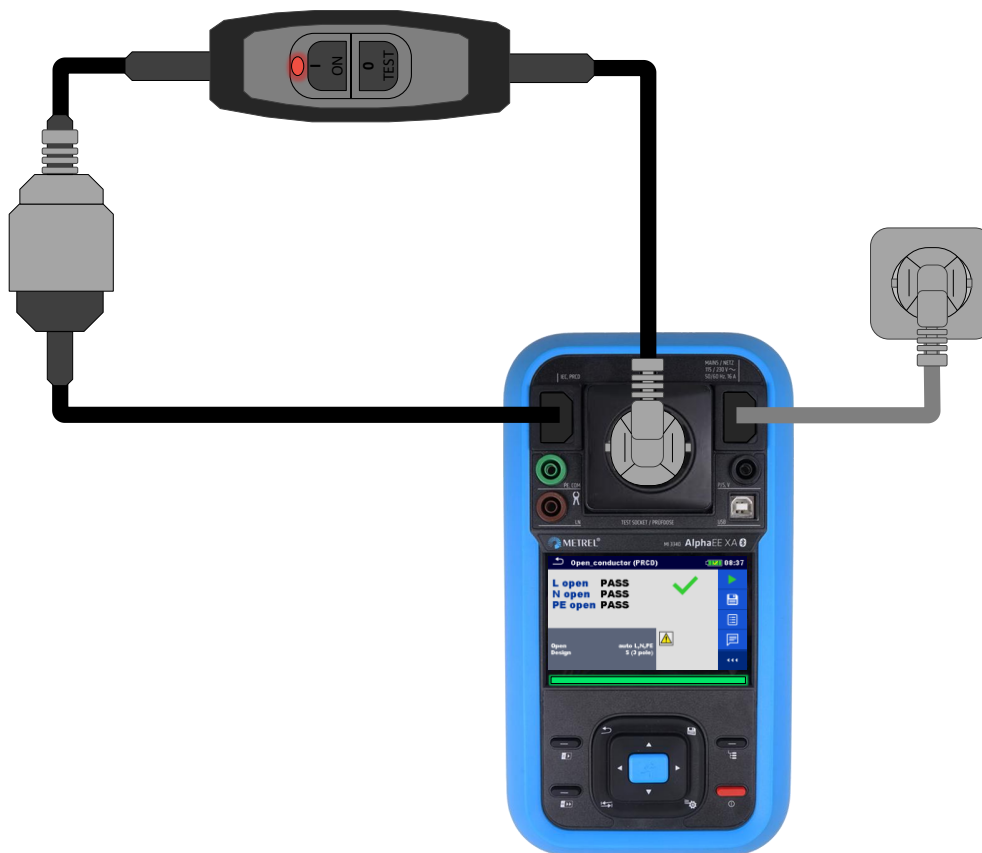

Figure 152_Open conductor test
- Connect the DUT according to the connection diagram Figure 152_Open conductor test,